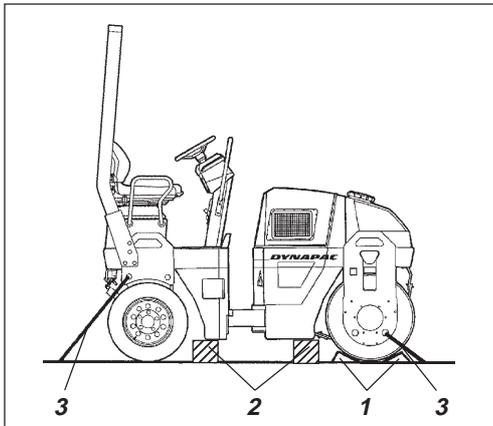

Fig. 38 Transporting a roller
1. Remove the center plug (1) (fig. 38) using a screwdriver.
2. Screw off the brake tool (1) from its threaded fixing hole. Then fix the brake tool (1) in the center hole by tightening the screw (2) until it bottoms in the hole. Tighten the nut (3) against the brake tool until it stops, indicating that the brake is now disengaged.
4. Screw out the nut again after towing. This returns the brakes to their normal mode. Screw off the brake tool and fit it back into its fixing hole. Refit the center plug (1) to counteract the formation of rust inside the threaded hole.